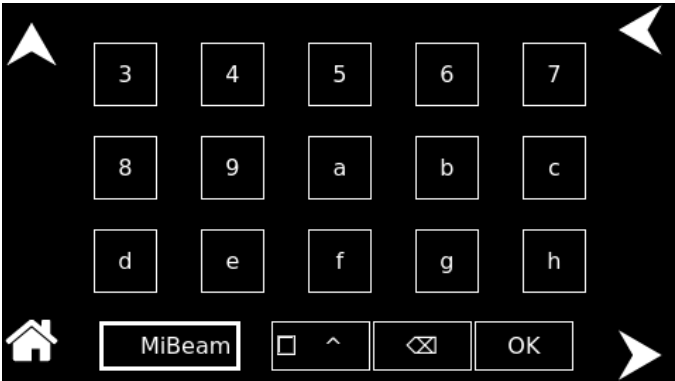

Figure 12-49. LAN Screen - Host Name
- **Host Name:** Allows setting a unique alpha-numeric host name. Refer to Figure 12-49.